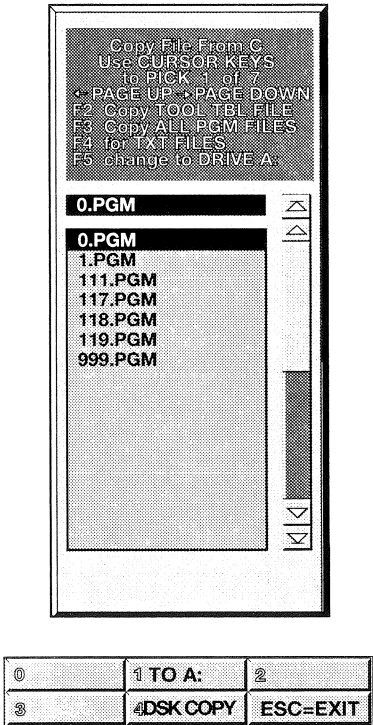
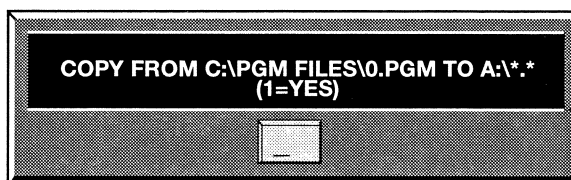

Figure 10-6
Figure 10-8
- 1.. Select a file (i.e., 0.PGM) to be copied from the list (Figure 10-6) using the **↑**, **↓**, **←**, and **→** cursor keys so that it is highlighted.
2. Press the [**1**] key [**1 TO A:**] and Figure 10-8 will be displayed.
3. Type 1 and press the **ENTER** key. The following message box will be displayed in the upper left hand corner : “**WAIT... Copy in Progress**” Figure 10-6 will again be displayed. Press the **ESC** key [**ESC=EXIT**] once to exit back to File Utilities, then press **ESC** again to exit back to the Main Operating Screen.
NOTE: The copy process will only proceed if the number one (1) is typed in the prompt box of Figure 10-8. EZTRAK will return you to the Figure 10-6 window if anything other than 1 is entered.